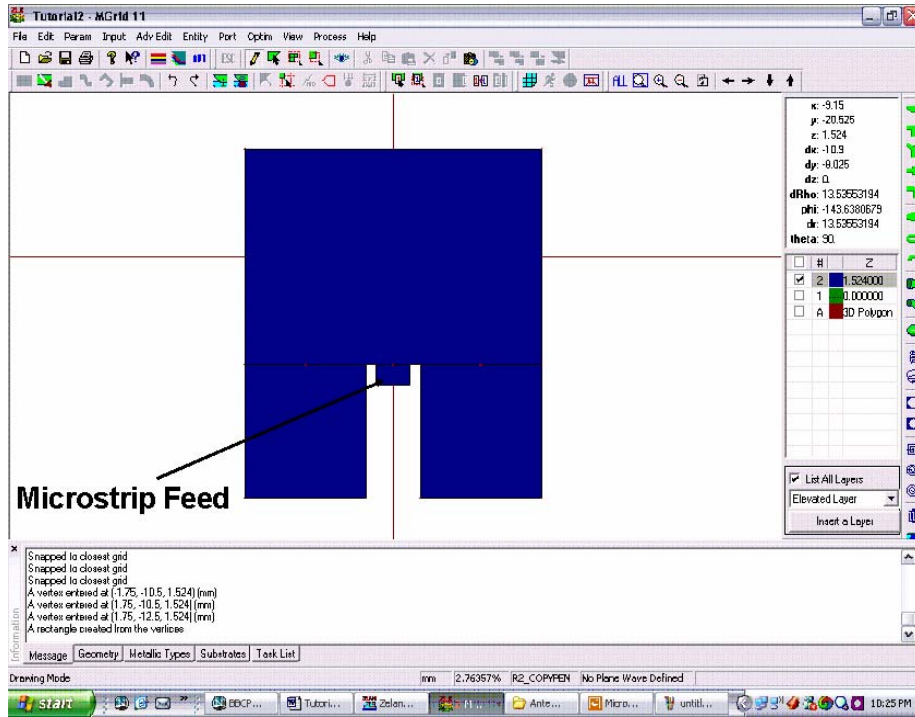

Figure 14. Layout of the antenna structure with a small microstrip feed.
- 16) Now that you know how to draw rectangles, draw the main feeding line. Start by drawing a small rectangle with the two opposing corners located at (-1.75 mm, -10.5 mm) and (1.75 mm, -12 mm). Your layout should now look like the one shown in Figure 14. This is the main microstrip line feeding the patch antenna. However, the length of the microstrip line is very small and we need to increase it.